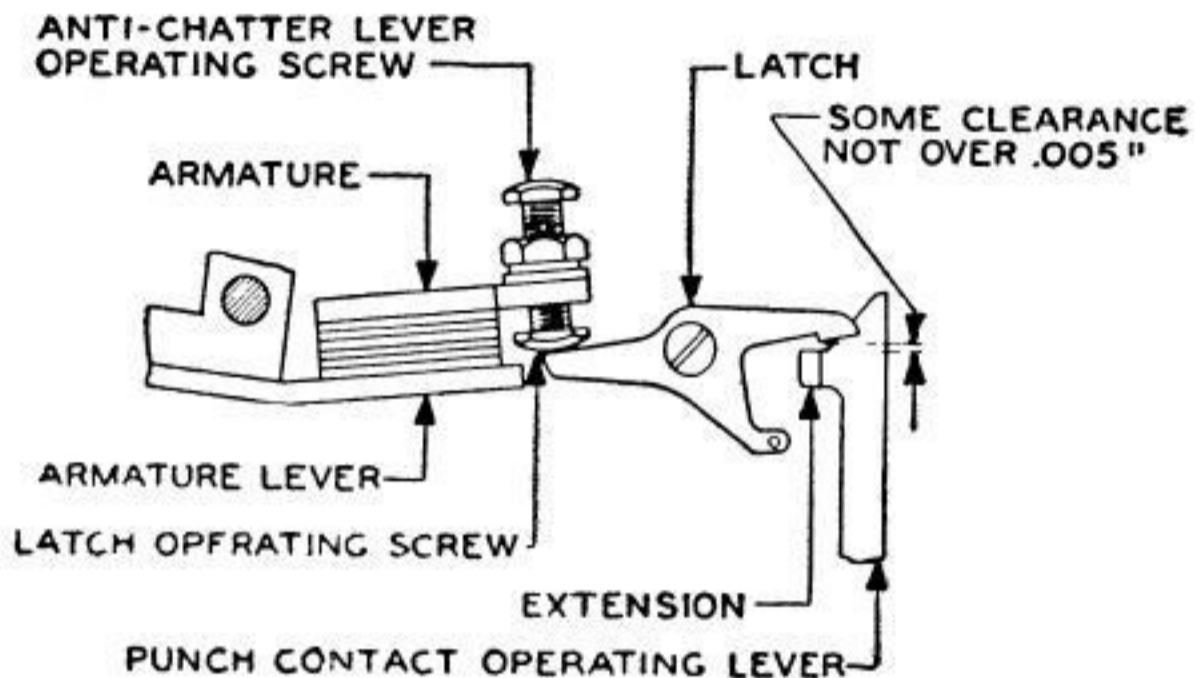

Fig. 16
- (a) To adjust, position the latch-operating screw in the magnet armature. **Fig. 16**